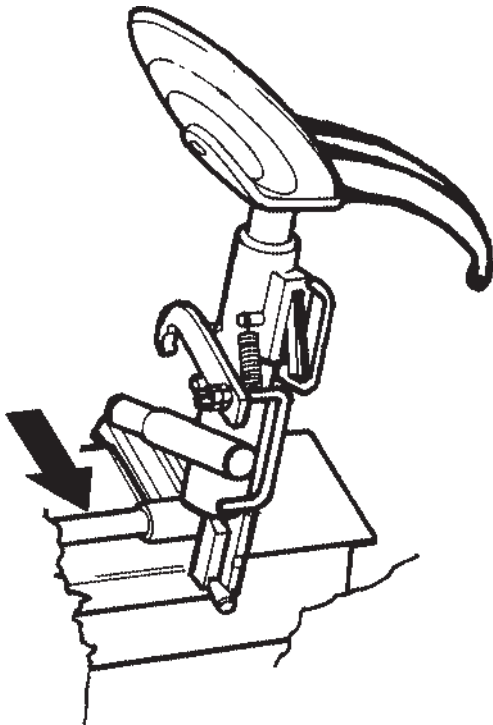

Fig. 37
4. Clean and grease the tool holder slide cylinder once a month (Fig. 37).